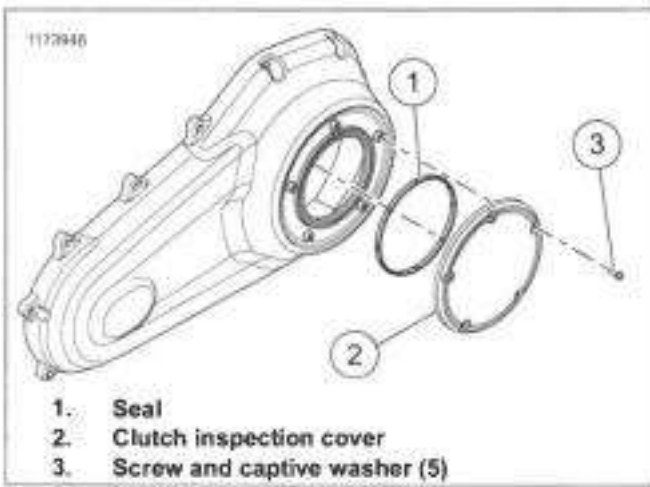
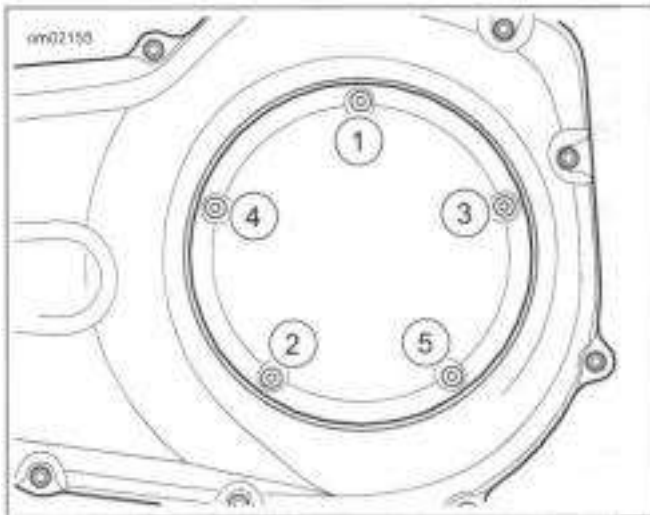

Figure 2-7. Clutch Cover (Typical)
Figure 2-8. Clutch Cover Tightening Sequence
- See Figure 2-7. Remove screws (3).
- Remove clutch inspection cover (2).
- Remove seal (1). Wipe oil from primary cover and O-ring groove.
- See Figure 2-7. Install new seal (1):
- Install clutch inspection cover (2).
- Install screws (3). Tighten finger tight.
- See Figure 2-8. Tighten screws in sequence.